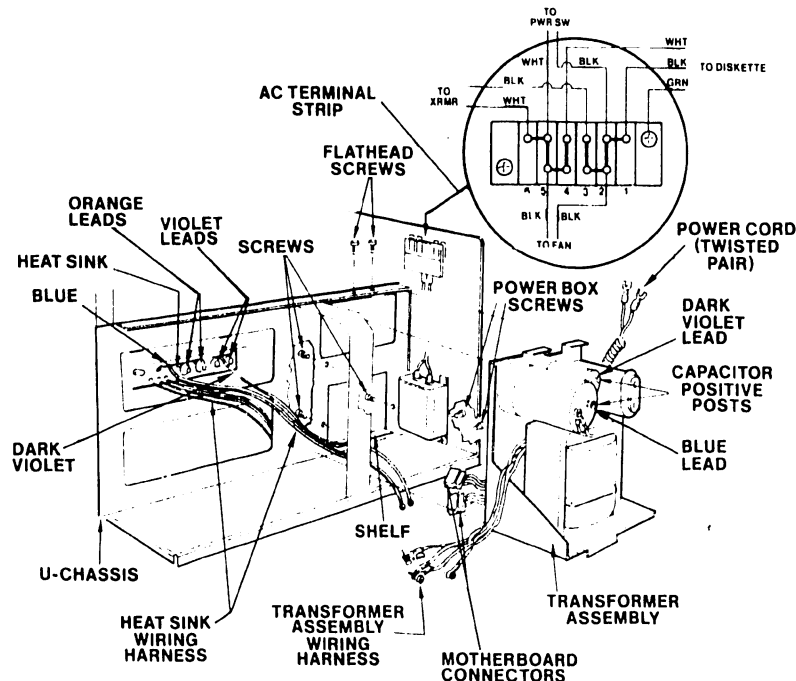

Figure 5-13. Removing the Transformer Assembly
- E. Disconnect the Transformer Assembly a.c. power cord (twisted pair) at the a.c. terminal strip (see Figure 5-13).